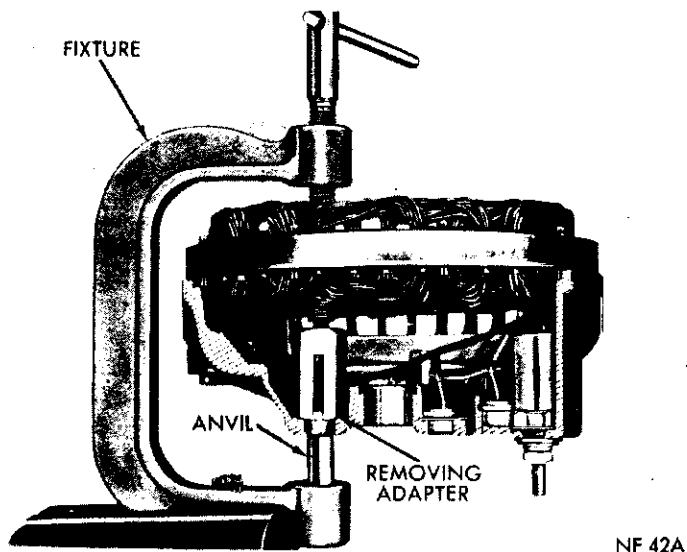
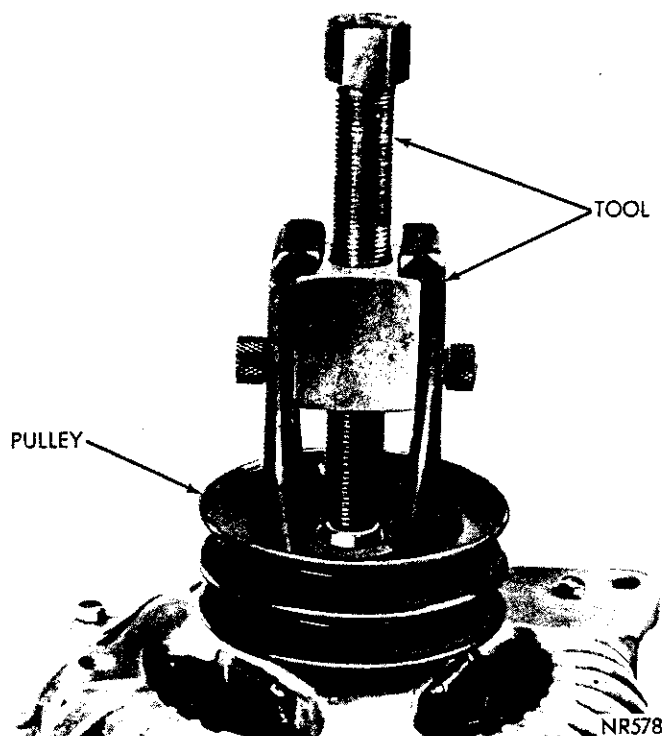

Fig. 16—Removing the Rectifiers
Fig. 17—Removing the Pulley
(4) Place Rectifier Removing and Installing Press in a vise and support end shield on clamp anvil under rectifier to be removed (Fig. 16). Make sure bore of tool completely surrounds rectifier during removal process.
(5) Carefully apply pressure with tool pressure screw until support tool, rectifier end shield, and remover pin, and remover adapter are in alignment then press the rectifier out of end shield or heat sink.
(6) The pulley is an interference fit on rotor shaft. remove pulley with Puller Tool C-4068 (Fig. 17).